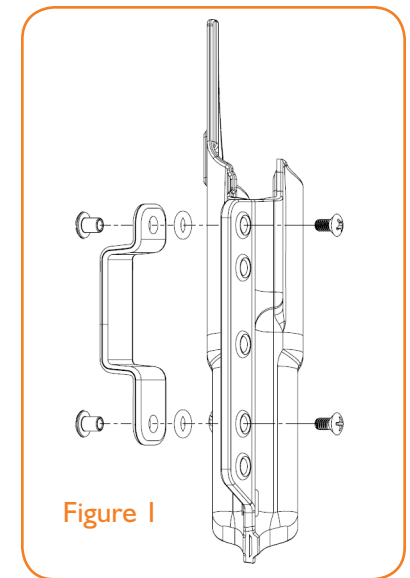

Figure 1
Every joint in our modular system uses three basic hardware components: An 8/32 Machine Screw, an O-ring, and a threaded post. Most accessories will mount at two points with these components. These are the general rules when assembling every joint (see Fig. 1):
• **Phantom Modular Holsters (see Fig. 1, 2):** Holsters made for use without a weapon light will come with two belt loops in your chosen size. One will be a “flat” and one will be a “short” angle. The short angle loop will mount to the lead seam of the holster
• **Phantom Light Compatible Holsters (see Fig. 1, 3):** Holsters made for use with a weapon light will come with two belt loops in your chosen size. One will be a “short” angle and one will be a “tall” angle. To tell which is which, lay them flat on a surface next to each other. One will be taller than the other, which is the “tall” angle loop. The short loop will mount on the lead seam of the holster (closest to the belt buckle) with the tallest part of the loop facing the molded outline of the weapon. The tall loop will mount on the trail seam of the holster (seam closest to the center of your back) with the tallest part of the loop facing the molded outline of the weapon.
• **Modular Magazine and Cuff Carriers (see Fig. 1, 4):** These will come with two identical “flat” loops that can be mounted to both the lead and trail seam of the carrier.
Be sure and follow the general hardware installation guidelines and NEVER seat a screw into a belt loop. You can split or damage the loop. Always ensure a slotted post seats against the belt loop (see Fig. 1)